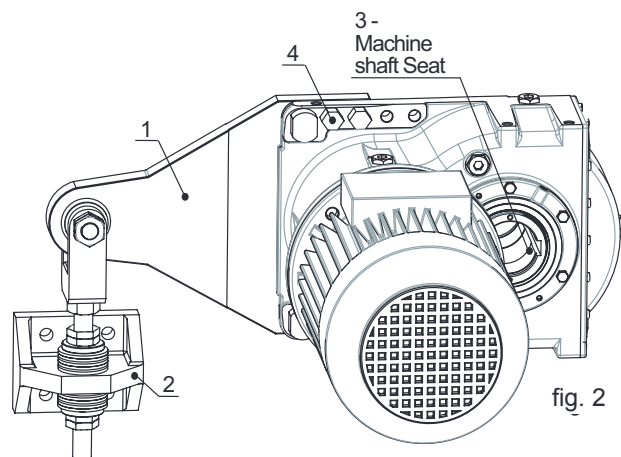

fig. 2
Secure the reaction arm to the machine structure (pos. 2) and tighten using the anchor bolts (minimum recommended class 8.8) to the torque value indicated in the "torque setting" table in section 9.1 (see Fig. 2).